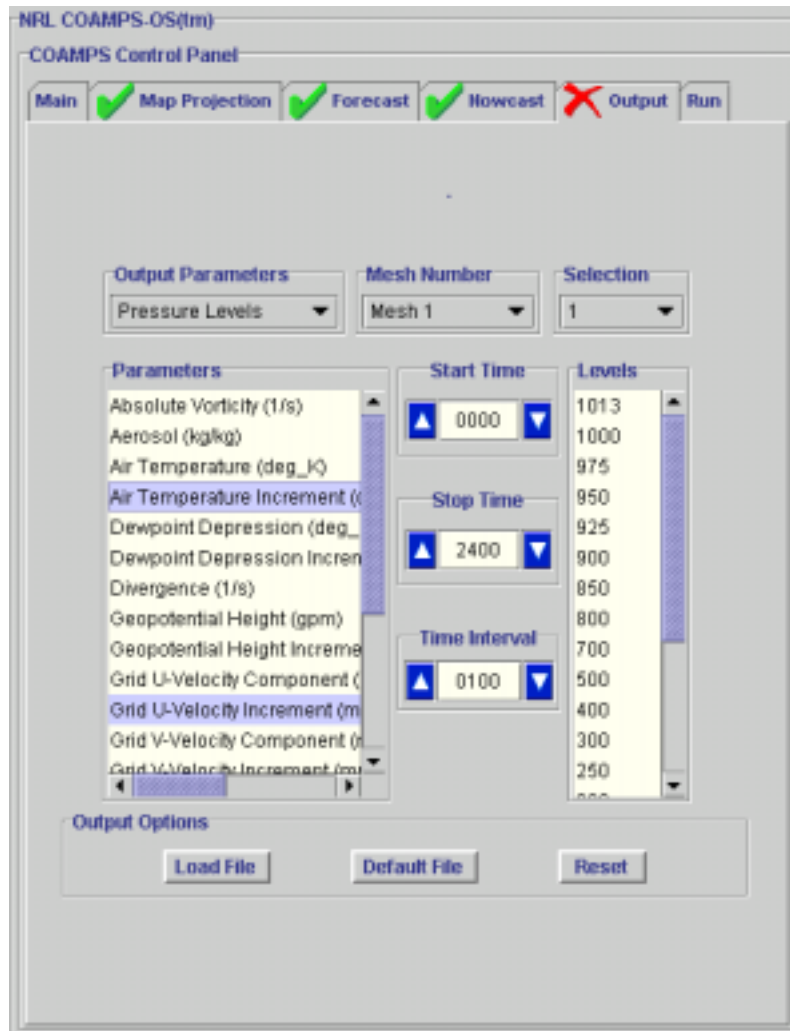

Figure 22. Output Control Panel with Pressure Parameters highlighted.
4. Select the parameters to be output by single clicking on each one. A selected parameter will be highlighted in purple. Deselect a parameter with a single click on the highlighted parameter. Figure 22 shows the **Output Control Panel** with a group of selected parameters.